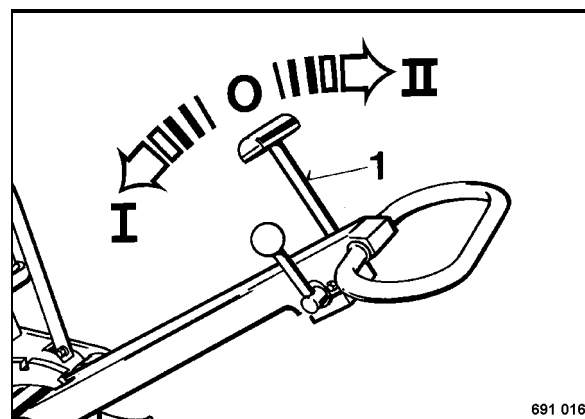

Fig. 15
- Actuate travel lever 1 (Fig. 15) to forward 'I' or reverse 'II', according to the required travel speed.